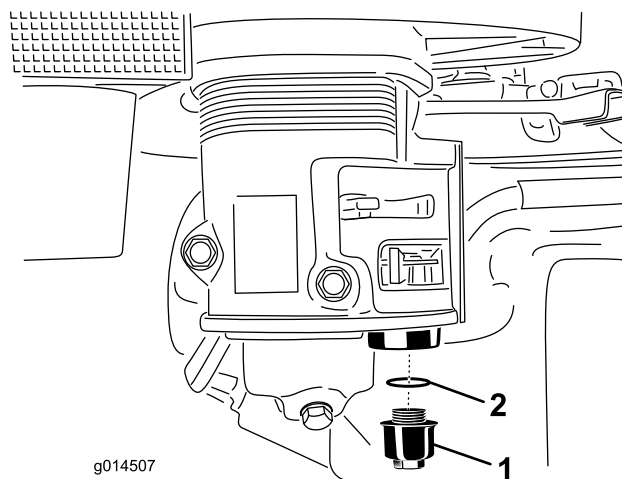

Figure 14
2. Unscrew the sediment cup (Figure 14).